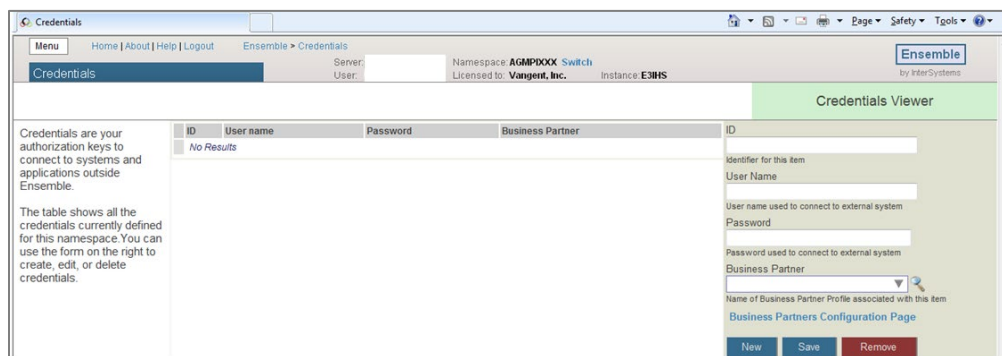

Figure 5-29: Ensemble Credentials page
1. On the **Management Portal** page, click **Ensemble**, then click **Configure**, then click **Credentials** to display the **Ensemble Credentials** page, as shown in Figure 5-29.